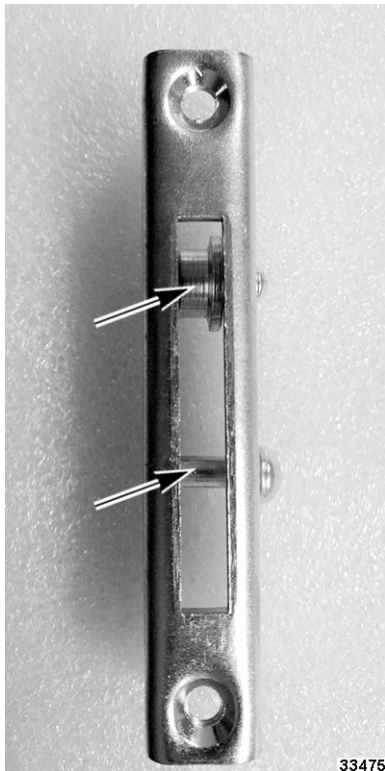

Fig. 34
- B. Release spring loaded hinge from the roller and pin inside the slot (Fig. 34) on door hinge stop to remove door.
NOTE: Fig. 34 shows bracket with pin and roller inside slot not mounted in oven frame for clarity.